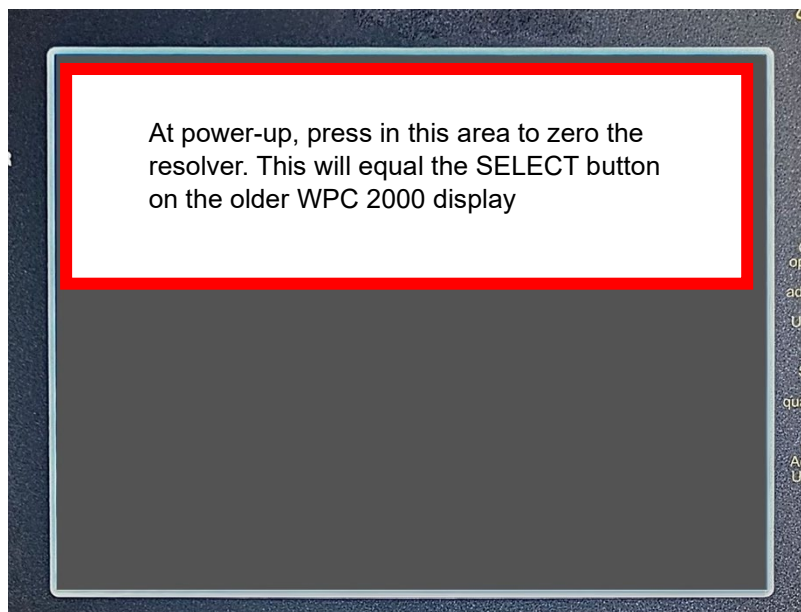
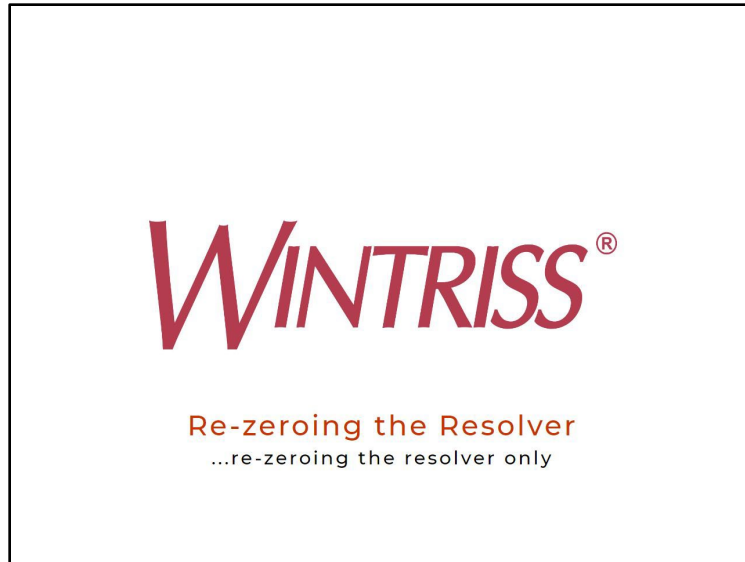

Figure 12. Where to Press the Display During Power-Up to Zero the Resolver
Figure 13. Re-zeroing the Resolver Confirmation
4. Press and hold pressure somewhere on the top half of the display, indicated in Figure 12, while you power-on the WPC 2000. When it starts and shows the confirmation in Figure 13, stop pressing the display.